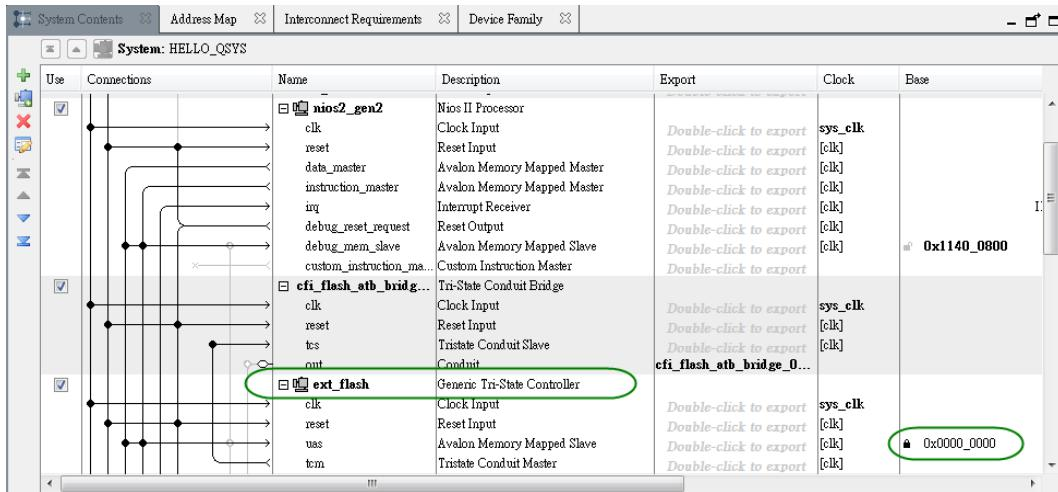

Figure 4-5 Flash Controller Settings in QSYS
1. QSYS should include a Flash controller for the CFI Flash on the development board. Please ensure that the base address of the controller is 0x00, as shown in Figure 4-5.